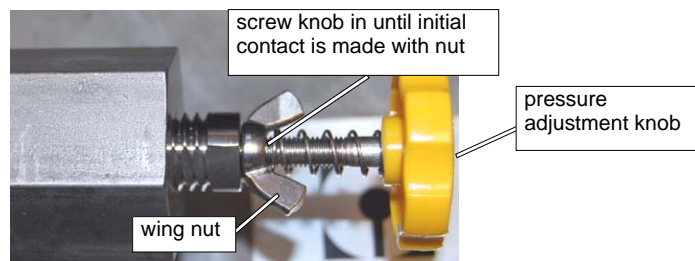

Figure 4-5: Prior to Applying High Pressure, Position the Knob to Just Touch Its Spring
3. To ensure the valve stem is correctly positioned once the pump starts, screw the wing nut towards the knob until the spring makes initial contact with both the wing nut and knob (Figure 4-5).